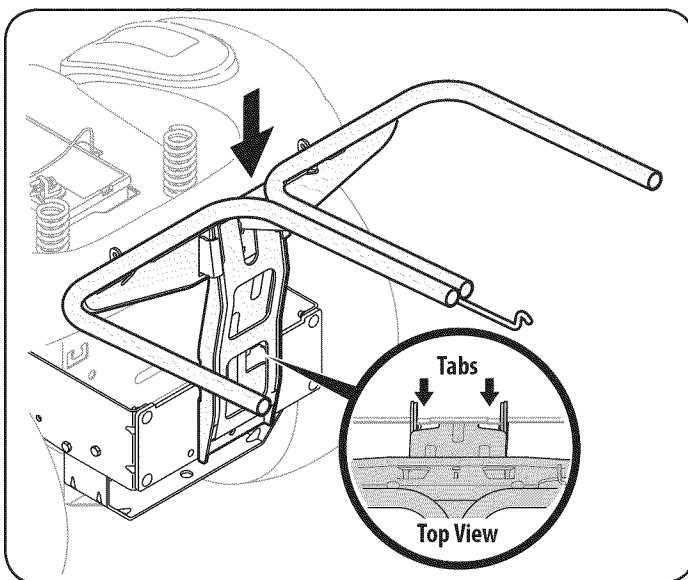

Figure 10
4. Install the bag support assembly onto the mounting assembly on the tractor by hooking it over the cross mounting bracket outside of the two tabs. See Fig. 10.